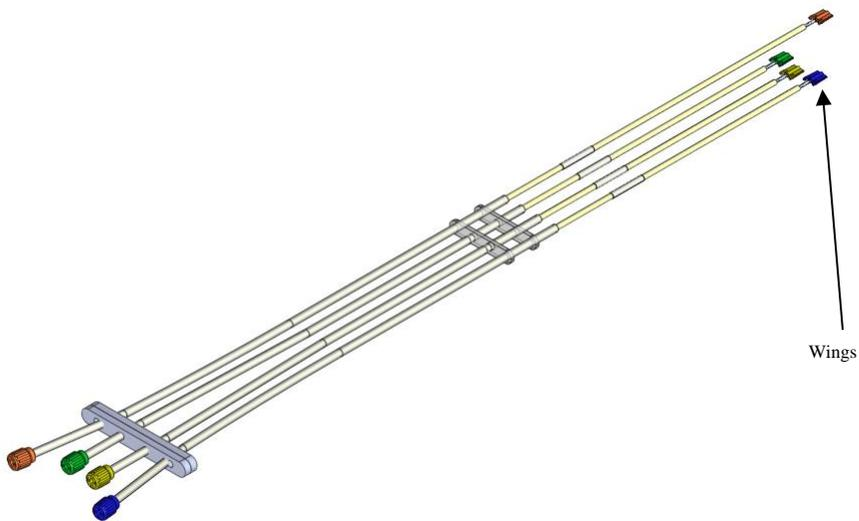

Figure 10: Thumb Wheel Extension
1. Remove Thumb Wheel Extension Set from its sterile barrier package. **See Figure 10.**